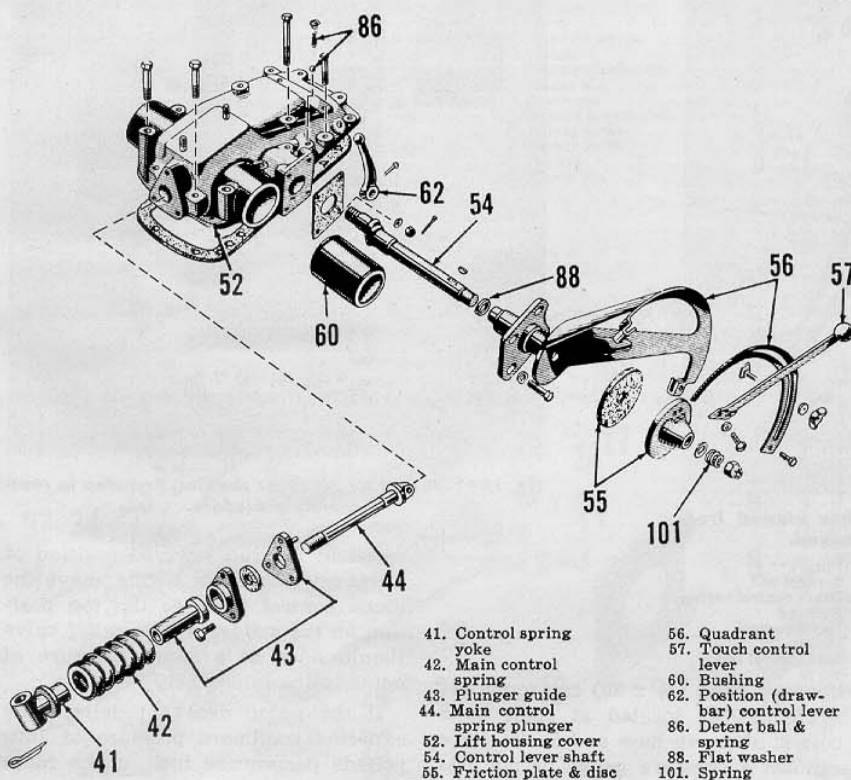

Fig. FO86—Model 8N lift housing cover (52), touch control lever (57), control spring (42), and related parts. Refer to Fig. FO87.
110. DISASSEMBLE AND OVERHAUL. Procedure for disassembly of the lift cover assembly is self evident by an examination of the unit and reference to Figs. FO86, FO87, FO88, FO89, FO90 and FO91. The general order of disassembly is the ram cylinder (50), piston connecting rod (47), touch control lever (57), linkage for